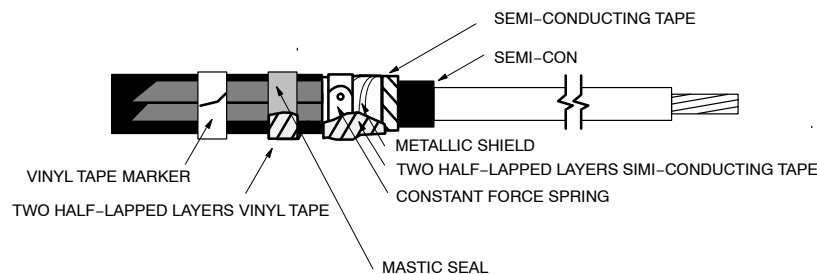

FIGURE 5A
6. Wrap two half-lapped layers of vinyl tape around the mastic seal. Apply two half-lapped layers of semi-conducting tape over the constant force spring and exposed metallic shield. Do not cover the exposed semi-con insulation shield. See Figure 5A.